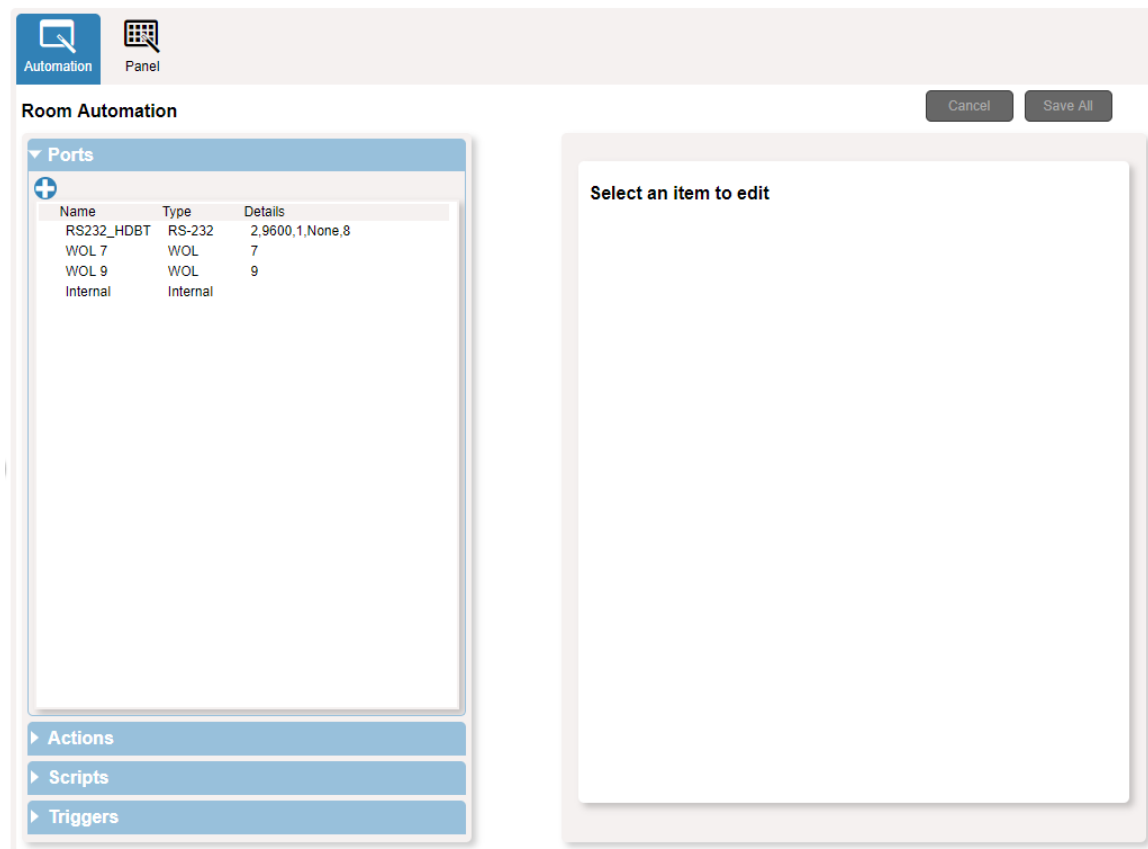

Figure 30: Automation Page
1. In the Navigation pane, click **Automation**. The Automation page appears (see Figure 30).
4. In the Navigation pane, click **Automation**. The Automation page appears (see Figure 30).